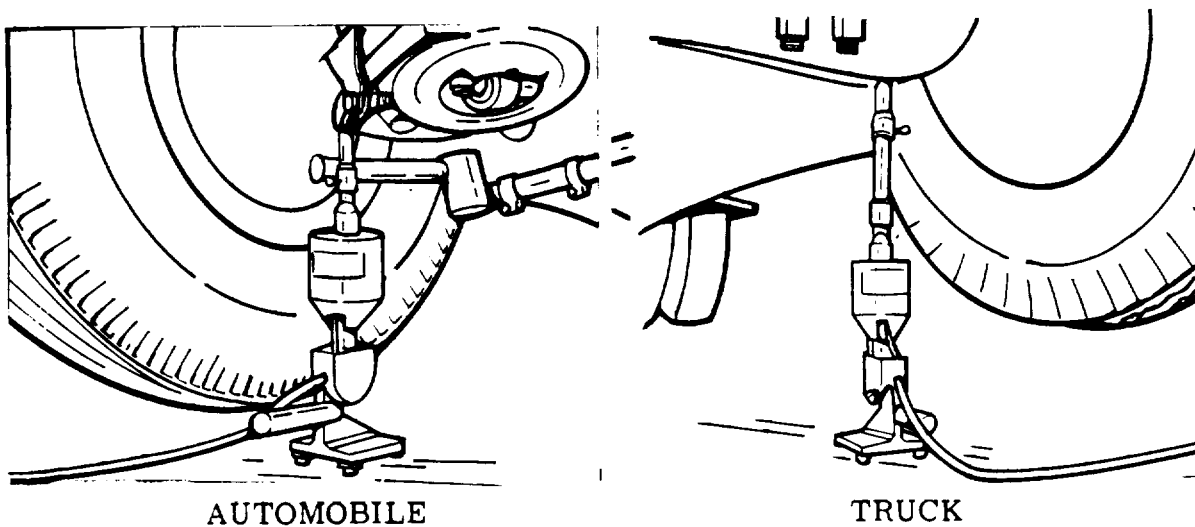

Fig. 2.
6. Install pickup unit, Fig. 2, under lower control arm or solid axle, as close to brake backing plate as possible. Make sure it is straight up and down and handle is pointed to the front. Pickup shaft, with internal spring slightly